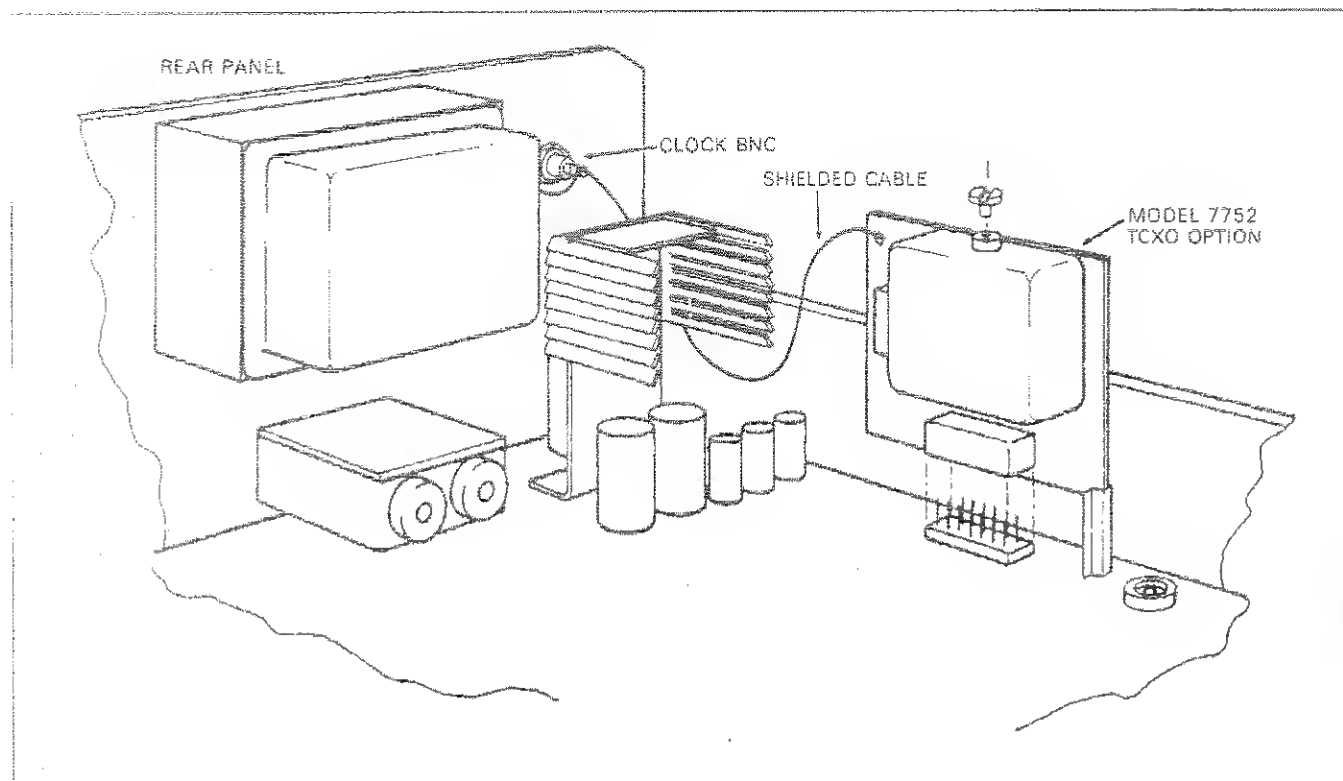

Figure 6-3. Model 7752 Installation
5. Slide the Model 7752 option along the card guide and push the card down until it locks into place as shown in Figure 6-3.